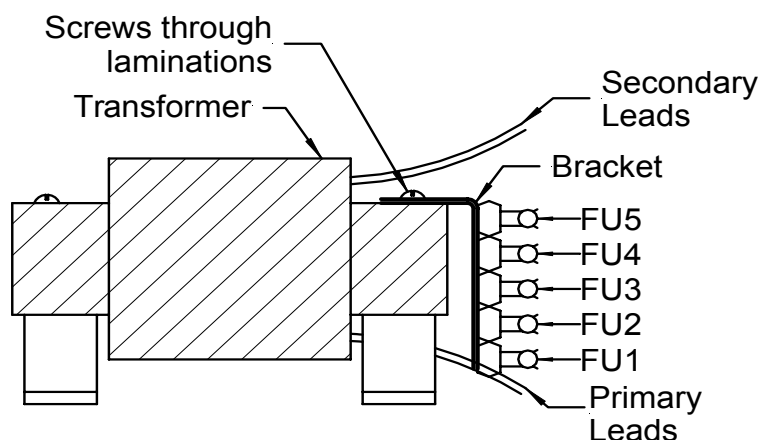

Figure 5 Fuse Blocks Mounted to Transformer
Five (5) 0.4AT fuses, FU1 through FU5, are located in the electrical box. Their fuse blocks are attached to a bracket fastened to the transformer. See Figure 5. If the LCD display reads Fuse ERR, check FU3, FU4 and FU5. If both circuit breakers are closed and the LCD display is blank, check FU1 and FU2.